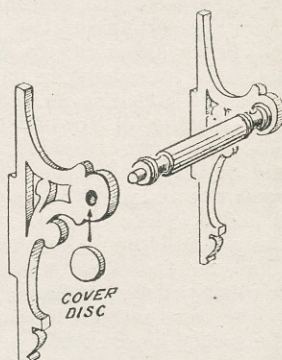

Fig. 2—How the handle is made
The dowelling is cut off flush with the handle pieces, then covered by little circular discs as shown at Fig. 2. The top to each end is a plain rectangular piece with rounded corners, two mortises and a large circular opening. Cut the mortises (B) to fit over the projections on the